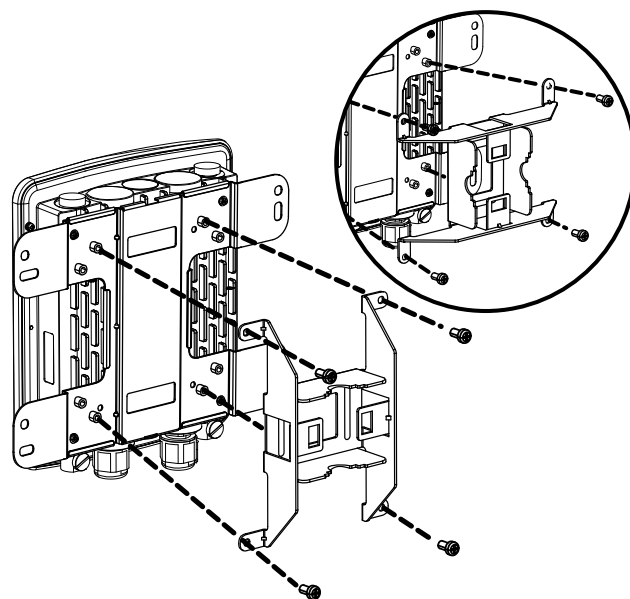

Figure 13: Attaching the pole mount base
2. Depending on the orientation of the pole you wish to install the AP onto (horizontal or vertical), attach the pole mounting bracket to the mounting base plate accordingly using the screws. Refer to figure 13 for the proper position of the pole mounting bracket for each direction.